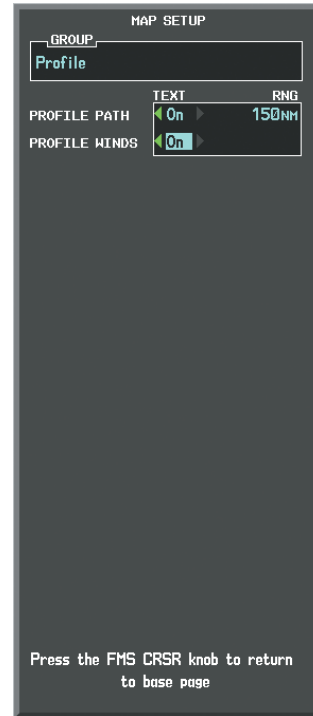

Figure 6-154 Navigation Map Page Setup Menu, Profile Group
- 5) Turn the large **FMS** Knob or press the **ENT** Key to scroll through product selections (Figure 6-154).